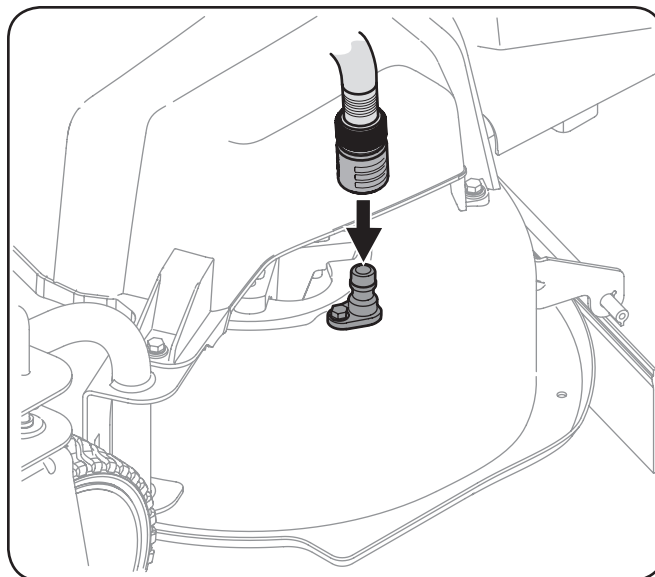

Figure 5-1
3. Attach the hose coupler to the water port onto your deck's surface. See Figure 5-1.